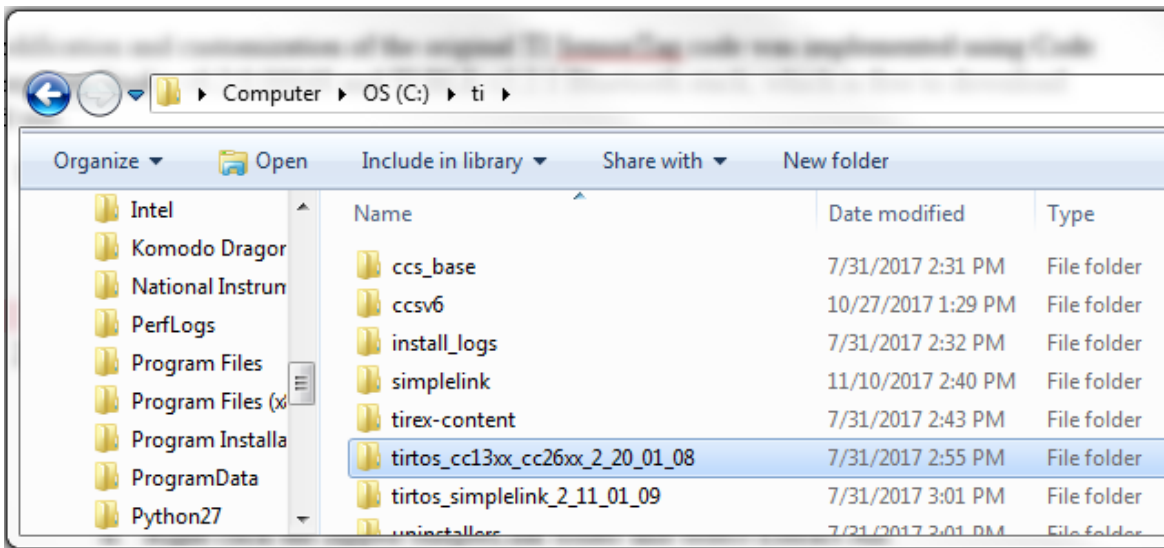

Figure 15, TI-RTOS 2.20.01.08 installation folder.
- ii. Verify that TI-RTOS 2.20.01.08 is installed into the TI home directory (default: C:\ti). See Figure 15.